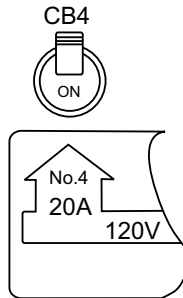

Figure 74. GFCI Circuit Breaker ON
2. Place the GFCI circuit breaker, CB4 (Figure 74) in the **ON** position.